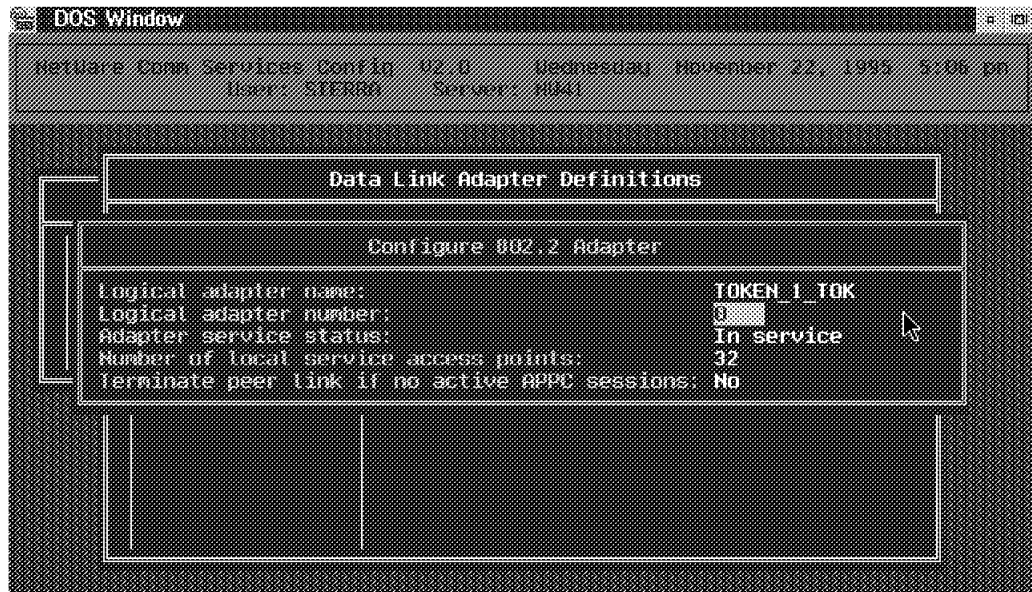

Figure 208. Configuring Data Link Adapters - Parameters
To create an Adapter press Insert. You are then prompted with the name to associate to this new adapter and then a panel appears as shown in Figure 208. You have to fill in this panel.
14. Select the Data Link Adapter you have already configured (see Figure 208 on page 207).